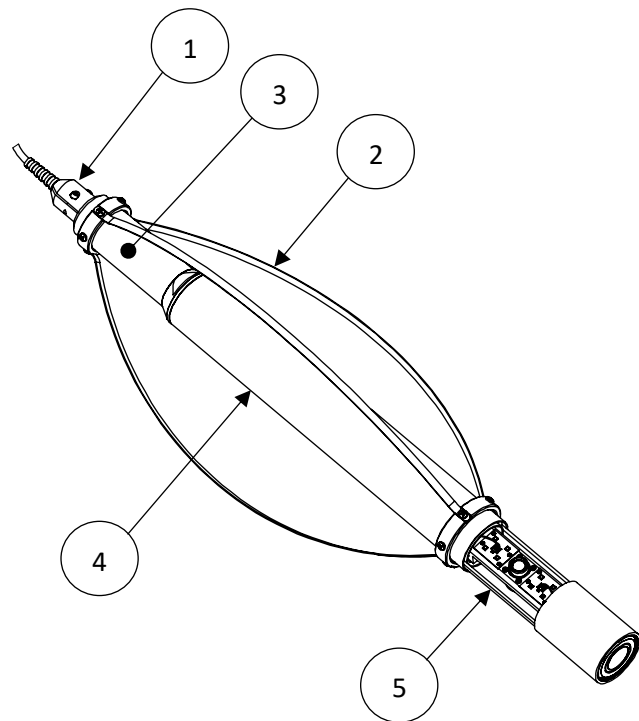

Figure 3
6. Before connecting the Camera to the Cable head (Figure 3 Item 1) inspect the O-rings in both connectors to be sure they are clear of debris or any contamination. Also check for any wear or damage. The O-rings should also be re-lubricated on a regular basis. Use a NEMA-rated O-rings lubricant.
7. Slide the Centering Band Assy (Figure 3 Item 2) and Upper Support Tube (Figure 3 Item 3) beveled end first, over and past the Cable head (Figure 3 Item 1). Connect the Twist Locking Cable head Connector to the Camera by carefully aligning the keyway on the connectors together and twisting the lock until seated. **The cable head connector should only be hand tightened.**
8. Thread the Upper Support Tube to the top of the Camera. Position the Lower Centering Band Collar on the Camera Housing (Figure 3 Item 4) at least $\frac{1}{2}$ " above the Side View Port (Figure 3 Item 5). **DO NOT ATTACH THE CENTERING BAND COLLAR TO WITHIN $\frac{1}{2}$ " OF THE GLASS PORT.** Position the Upper Collar on the Upper Support Tube so that the Centering Bands are extended to approximately $\frac{1}{2}$ inch less than the diameter of the well or borehole being inspected.